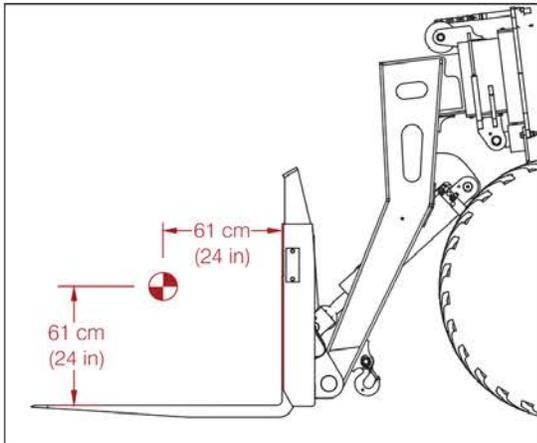

Figure 34 Load Center
- Ensure that the load center for the load is at or within 24 in of forks (see Figure 34).